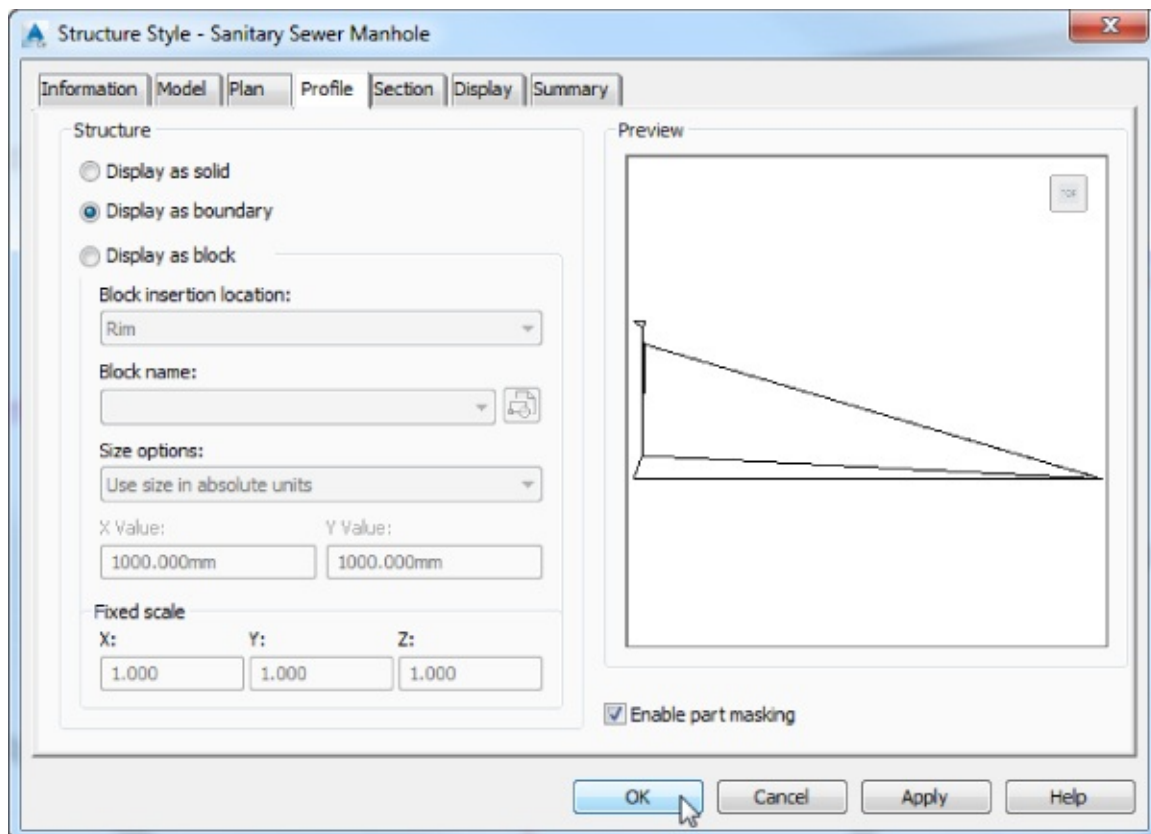

Figure 19.44 The Profile tab in the Structure Style dialog
4. **Profile Tab** The Profile tab (Figure 19.44) is where you configure what your structure will look like in profile view.